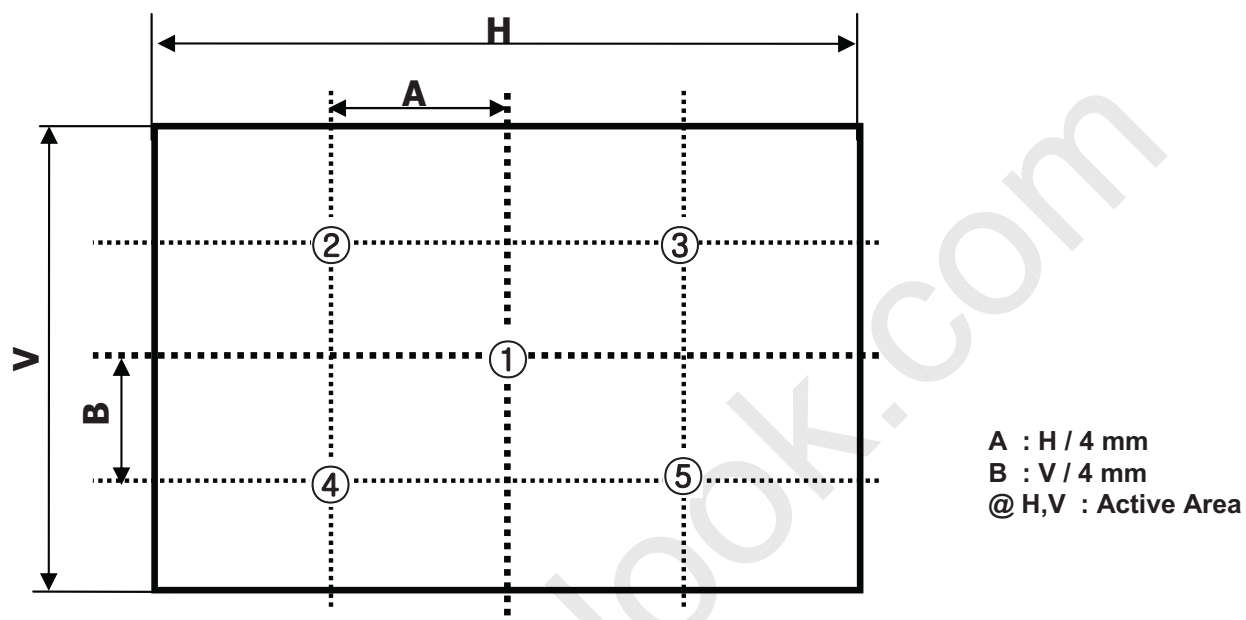

FIG. 2 5 Points for Luminance Measure
n = the Position number(1, 2, 3, 4, 5). For more information, see FIG. 2.
2. Surface luminance are determined after the unit has been 'ON' and 60min after lighting the backlight in a dark environment at  $25 \pm 2^\circ\text{C}$ . Surface luminance is the luminance value at center 1-point across the LCD surface 50cm from the surface with all pixels displaying white. For more information see the FIG. 2.
For more information, see the FIG. 2.